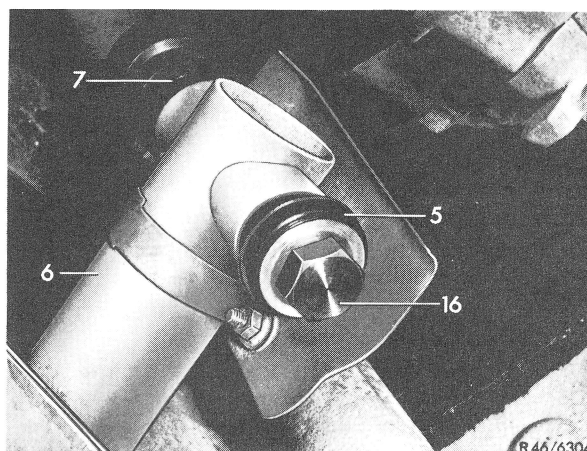

Fig. 5
8 Coat new rubber slide bearings (5 and 7) outside with slide fluid, e.g. white oil, and press into journal bearing with pressing-in tool (16) (Fig. 5).